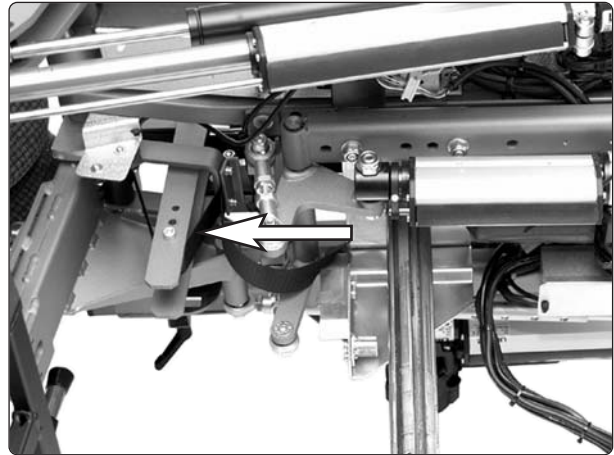

Fig. 33. The extension of the leg rest is adjusted by moving the roller.
When the seat is raised from the sitting to the standing position, the leg rest becomes longer in order to improve the comfort of the user. The leg rest's extension can be set to three different positions. It is set by moving the roller over which the leg rest's strap runs. The roller is mounted under the seat, behind the leg rest, see Fig. 33.
1. Unscrew and remove the screw holding the roller, see Fig. 33.
4. Insert and screw back in the screw holding the roller, see Fig. 33.